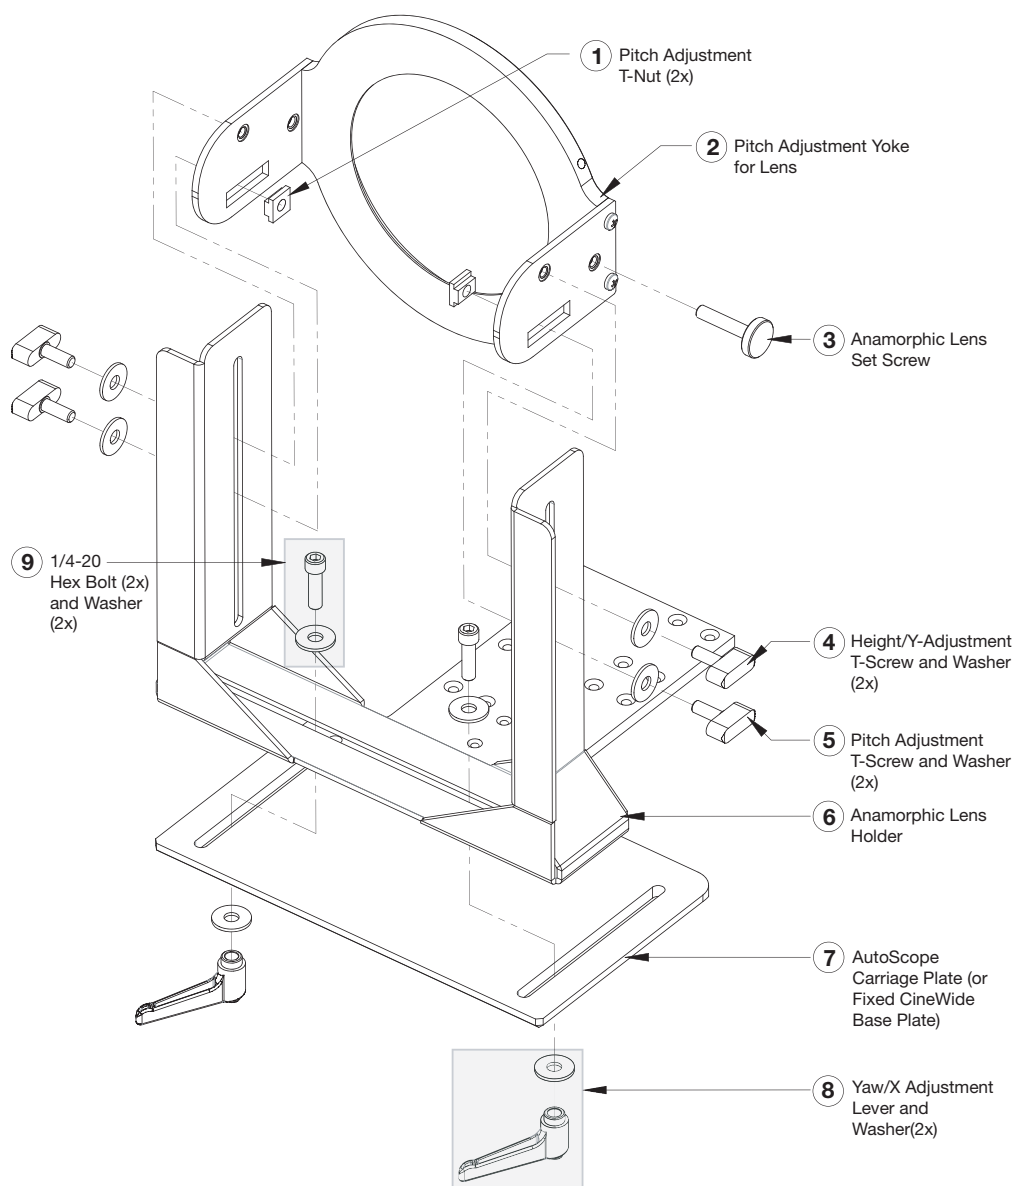

Figure 3-29. Cylindrical Anamorphic Lens Mounting Assembly - Exploded View
The Cylindrical Anamorphic lens mount kit consists of everything shown in Figure 3-29. Some components shipped with your projector may differ slightly from what is shown in these instructions. If any items are missing or damaged, please contact your Runco dealer or Runco Customer Service at (800) 23-RUNCO.